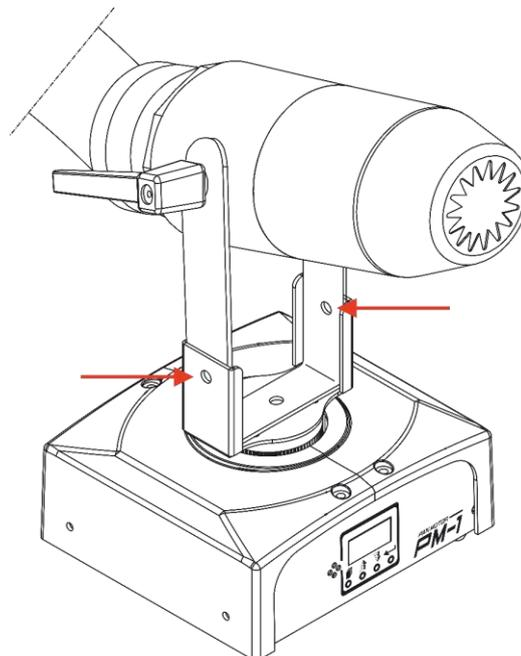

Fig. 04
02) Insert and tighten the mounting screws (Fig. 04).